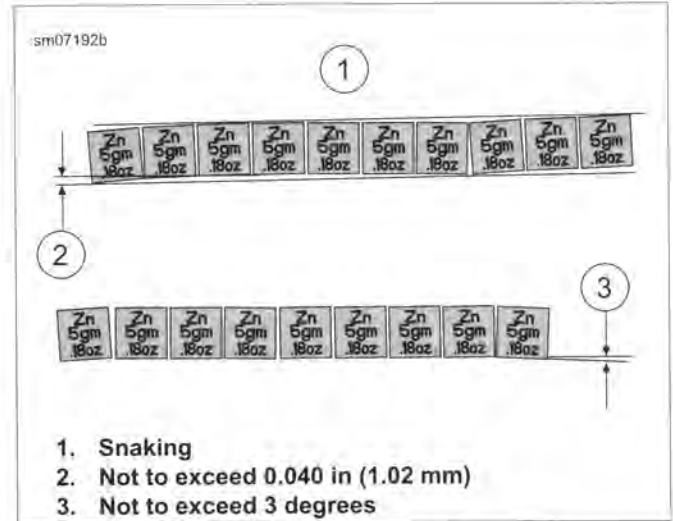

Figure 2-86. Weight Segment Alignment
See Figure 2-86. When installing wheel weights, consider cosmetics. Snaking (1) is not to exceed 0.040 in (1.02 mm) (2)